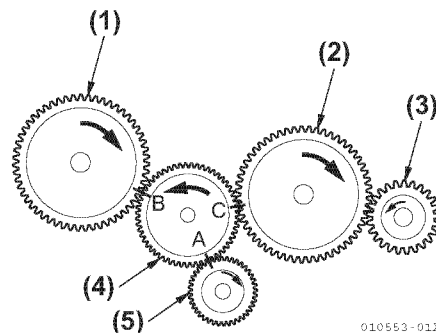

Figure 5-160
- Align the “B” match marks on the fuel injection pump drive gear and idle gear (Figure 5-160).